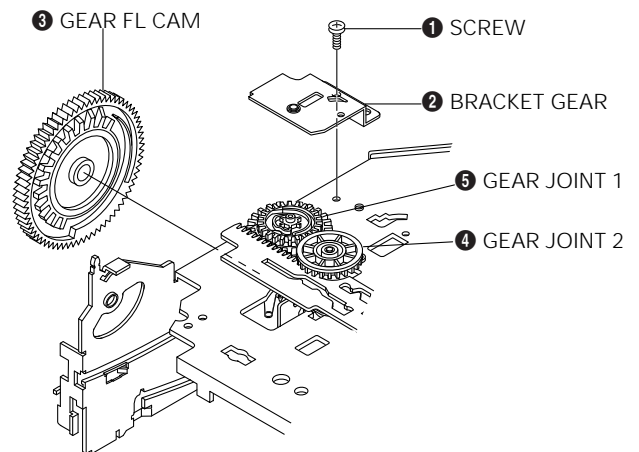

Fig. 1-9 Bracket Gear, Gear FL Cam, Gear Joint 1, 2 Removal
- 1) Release the Hook [A] in the direction of arrow and, remove the Holder Worm ❶.
- 2) Remove the Gear Worm ❷.
- 3) Remove the Gear Worm Wheel ❸. (After removing the Gear FL Cam as shown Fig. 1-9)
**Note :** Secure the Hook [A] after installing the Holder Worm ❶.